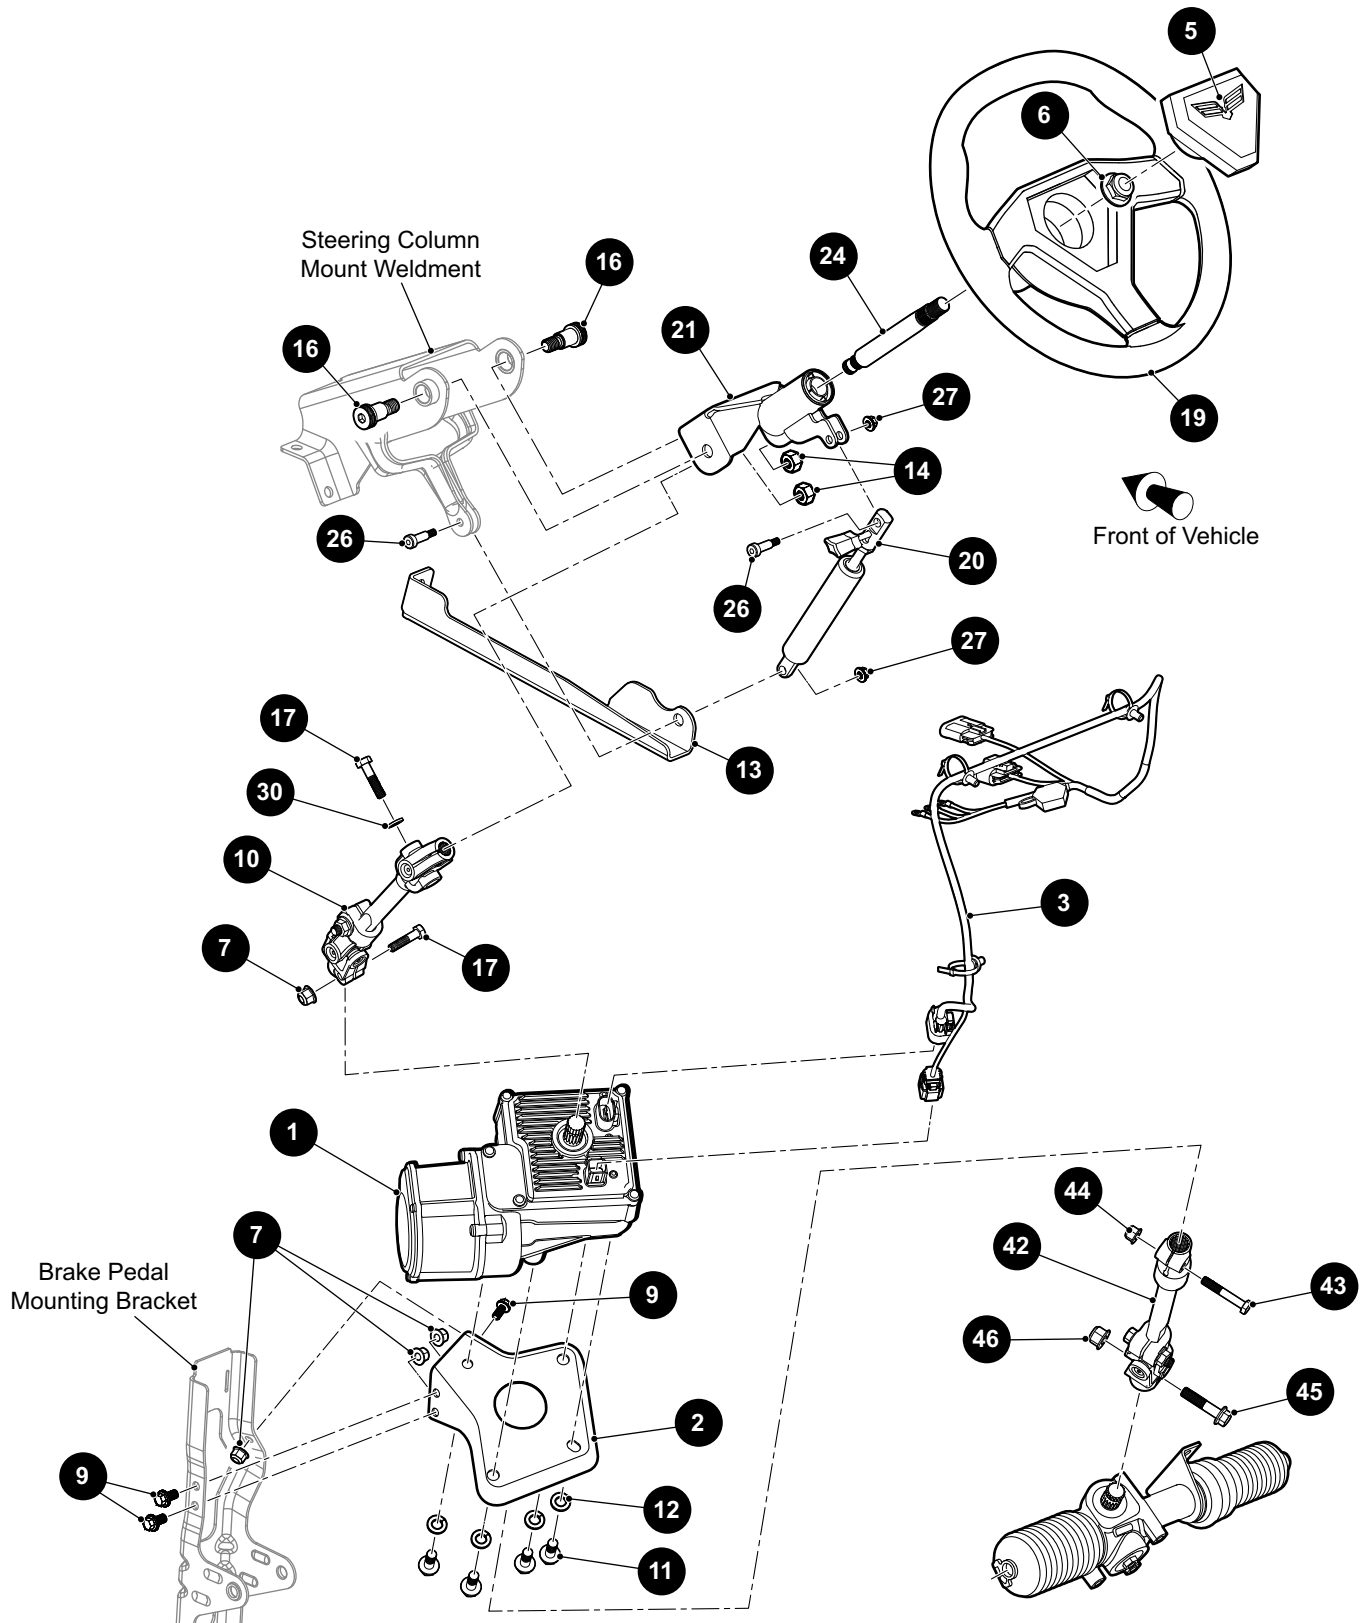
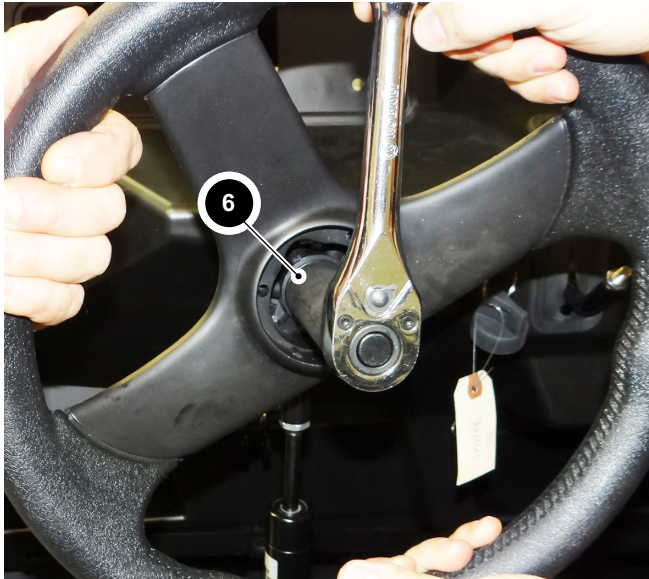
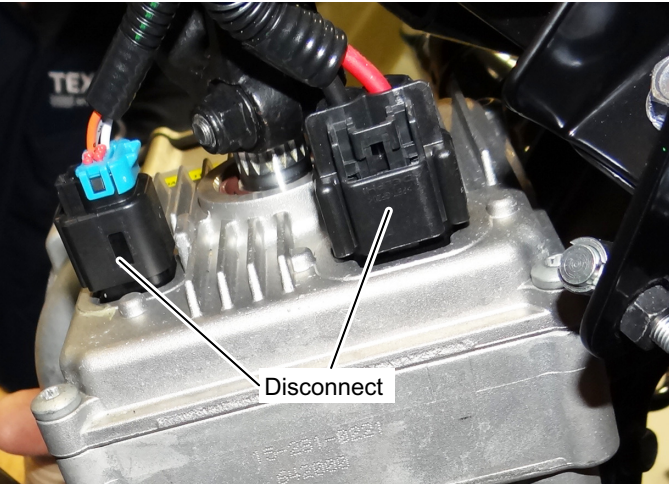

Fig. 20 Steering Components
Fig. 21 Steering Wheel Nut Removal
Fig. 26 EPAS Harness Connectors
4. Remove the vent line (Ref. Fig. 20). Disconnect the differential power connection.
5. Remove the bolt (1) and nut (2) that secure the prop shaft to the differential.
6. Remove four bolts (3) that secure the front differential to the frame. Carefully slide the differential off of the prop-shaft splines and remove from the vehicle.
1. Remove the steering wheel cover (5) by pulling it straight up (See Fig. 20) (See Fig. 21).
2. Remove the bolt (17) and washer (30) that secure the steering shaft (10) to the steering wheel shaft (24) (Ref. Fig. 21)(Ref. Fig. 26).